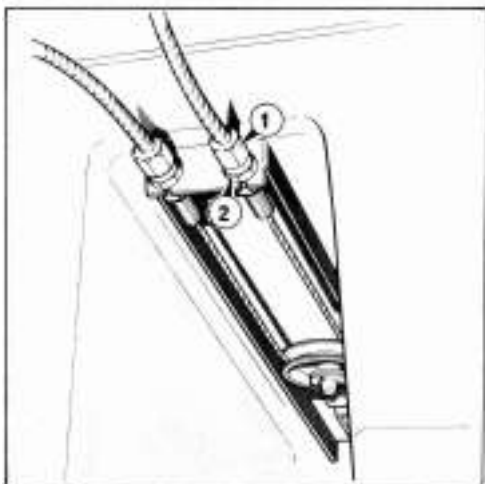

Figure 38 Handbrake adjusters
- 2 Slacken off the locknuts shown in **Figure 38**. Adjustment can then be effected by means of the main adjuster screws. Adjust the two screws equally. Re-tighten the locknuts securely.